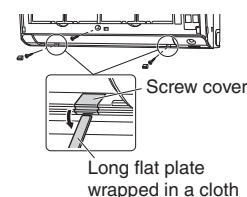

Fig.2
- 3) Remove screw covers (2 pcs.)*. (See Fig.2)
- 4) Remove the front grille fixing screws (3 screws)*. (See Fig.2)